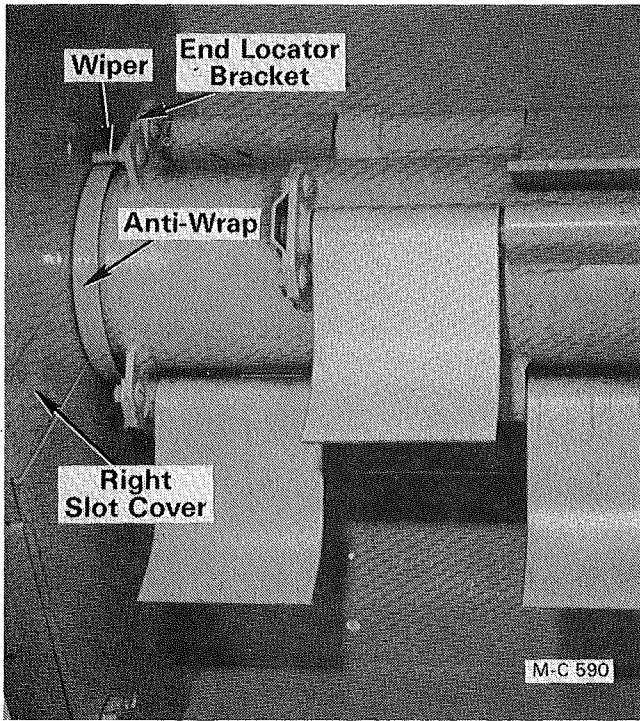

Figure 19 - Rear View
- B. Turn the rotor and line up the rotor hanger bar in the center of the slot in the right side of the body, see Figure 19, page 16. Block the rotor in this position.